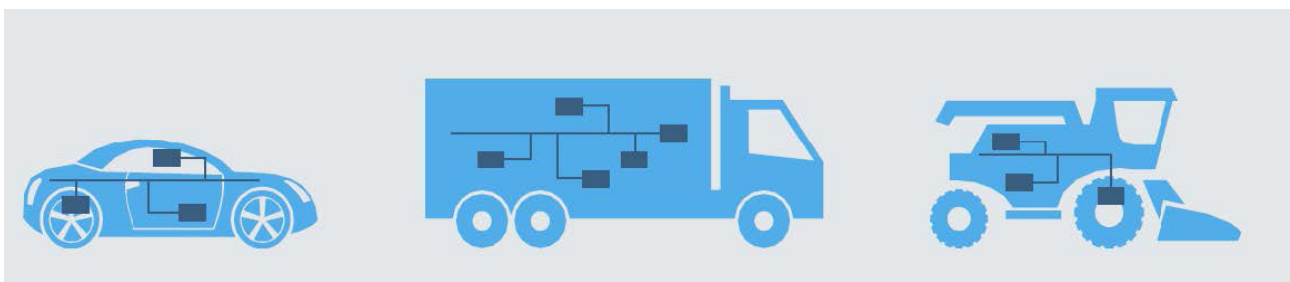

Figure 1: Road-vehicles and non-road mobile machines (Source: Softing Automotive)
Be it a passenger car, a heavy-duty truck or a non-road mobile machine (figure 1), preventive maintenance (PM) is an important measure to reduce unexpected breakdowns. PM is a scheduled process, performed at regular service intervals. It includes but is not limited to inspection, cleaning, and lubrication, but also the exchange of fluids, filters, spark plugs, and drive/timing belts.